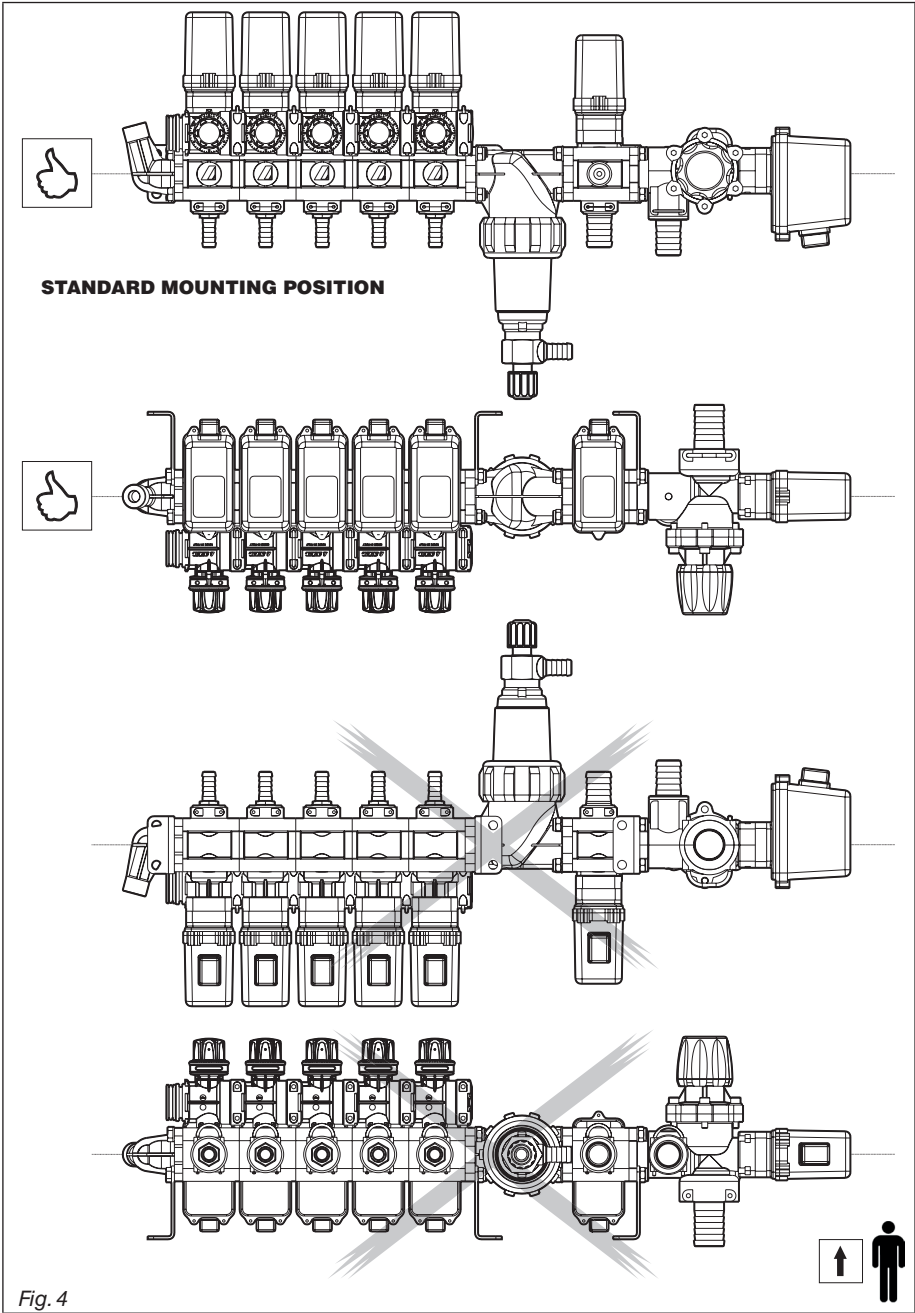

Fig. 4
Observe unit mounting positions shown in Fig. 4:
- All indications on installation, adjustment and operation reported below are intended for the unit installed in the standard mounting position (Fig. 4).